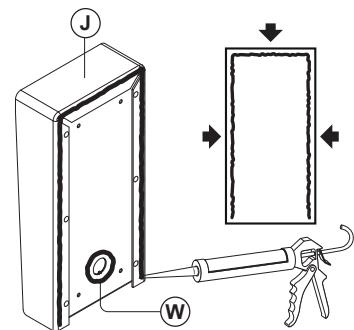

Fig. 12
**⚠ In order to prevent water ingress we highly recommend using a silicon sealant between the wall and the back box **(J)** (Fig.12) and around all holes **(W)** (Fig.12).**